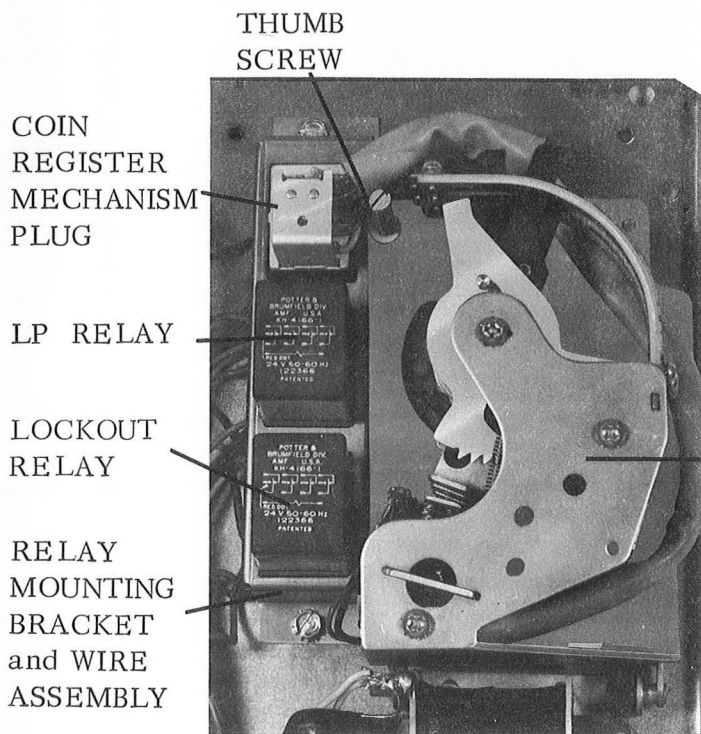

Figure 1.
3. Disconnect COIN REGISTER MECHANISM PLUG from Coin Register Mechanism Socket shown in Figure 1.
4. Remove THUMB SCREW securing COIN REGISTER MECHANISM to Selector Mechanism, then remove COIN REGISTER MECHANISM. Retain THUMB SCREW for reassembly. See Figure 1.
6. Remove and discard Red LOCKOUT RELAY, shown in Figure 1, from Lockout Relay Socket.
7. Remove and retain Red LP RELAY, shown in Figure 1, from LP Relay Socket.
8. Remove two screws securing RELAY MOUNTING BRACKET and WIRE ASSEMBLY, shown in Figure 1, to Selector Mechanism, then remove RELAY MOUNTING BRACKET and WIRE ASSEMBLY. Retain screws for reassembly.